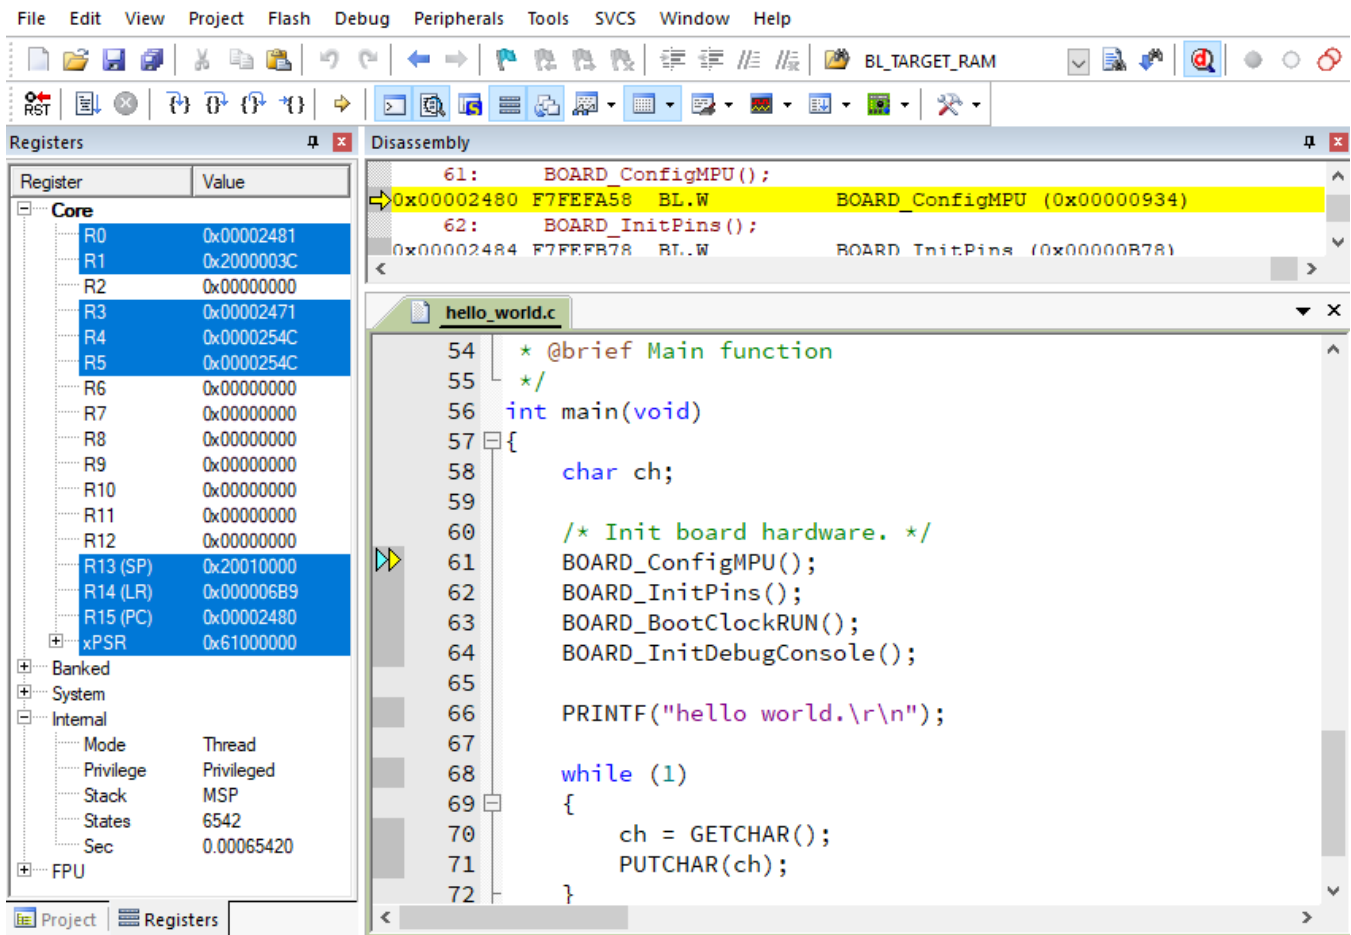

Figure 37. Stop at `main()` when run debugging
4. To debug the application, click **load** (or press the F8 key). Then, click the **Start/Stop Debug Session** button, highlighted in red in Figure 37. If using **J-Link** as the debugger, click **Project option > Debug > Settings > Debug > Port**, and select **SW**.